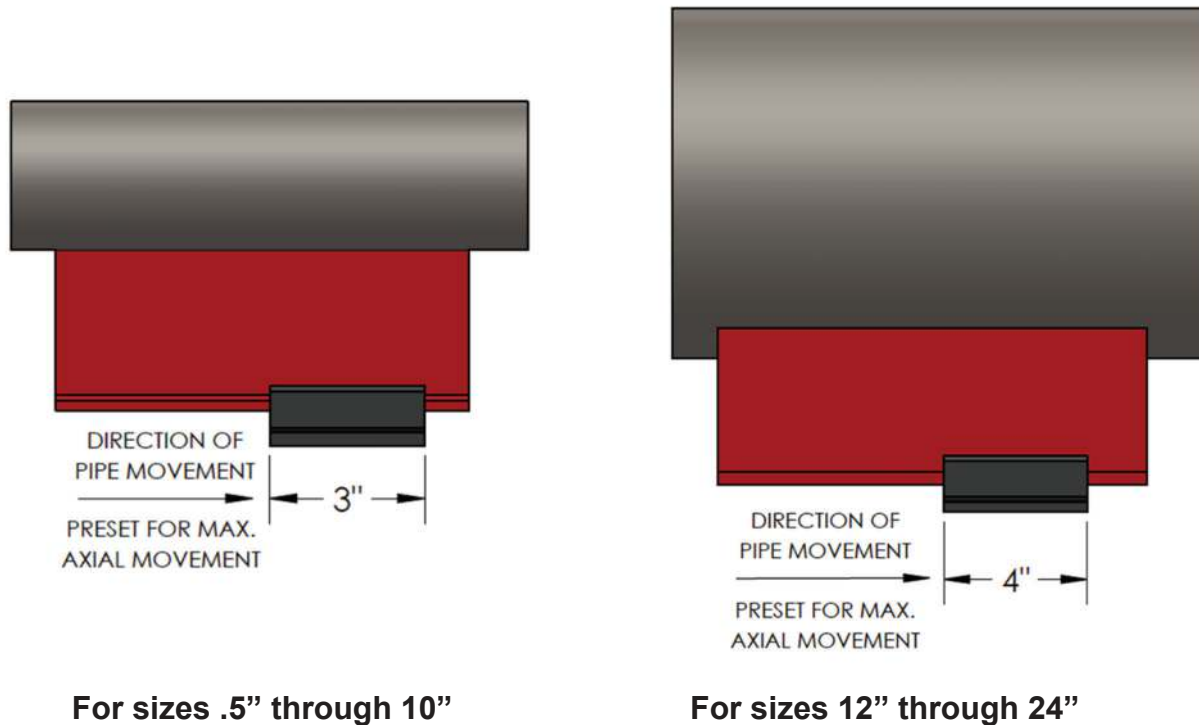

Figure 1. Guide Installation
3. Install the spider so that the leading edge of the spider is installed halfway into the housing, see Figure 1. Ensure that the pipe growth will push the spider into the housing.